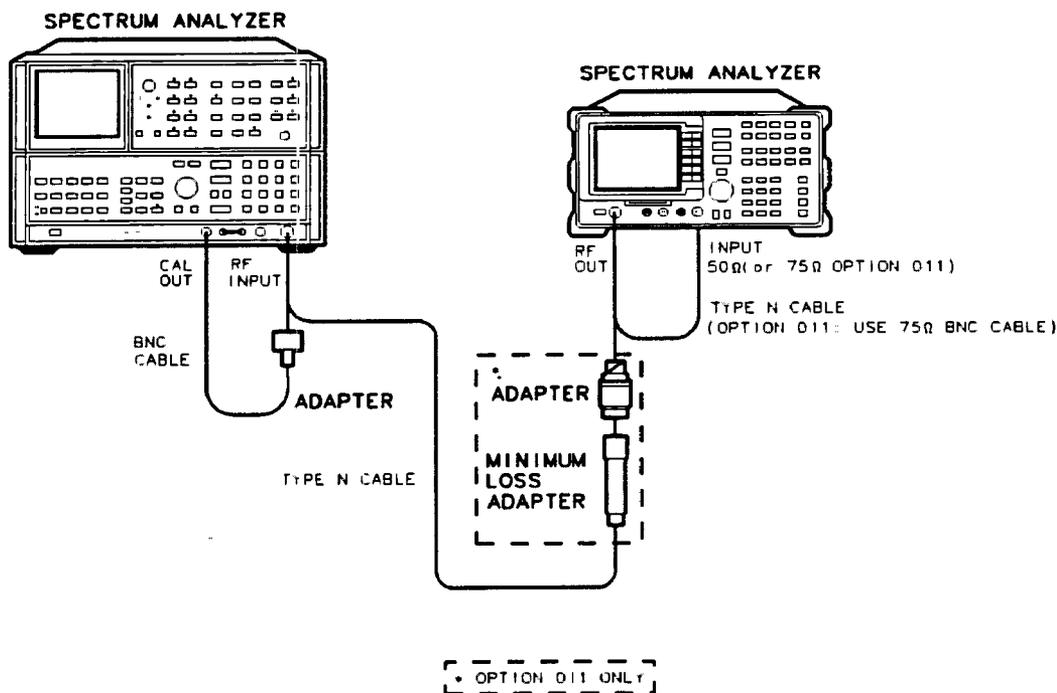

Figure 3-26. Non-Harmonic Spurious Outputs Test Setup
1. Connect the Type N cable between the RF OUT 50 Ω and INPUT 50 Ω connectors on the HP 8590B Spectrum Analyzer. See Figure 3-26.
7. Connect the Type N cable from the tracking generator output to the HP 8566A/B RF INPUT as shown in Figure 3-26.